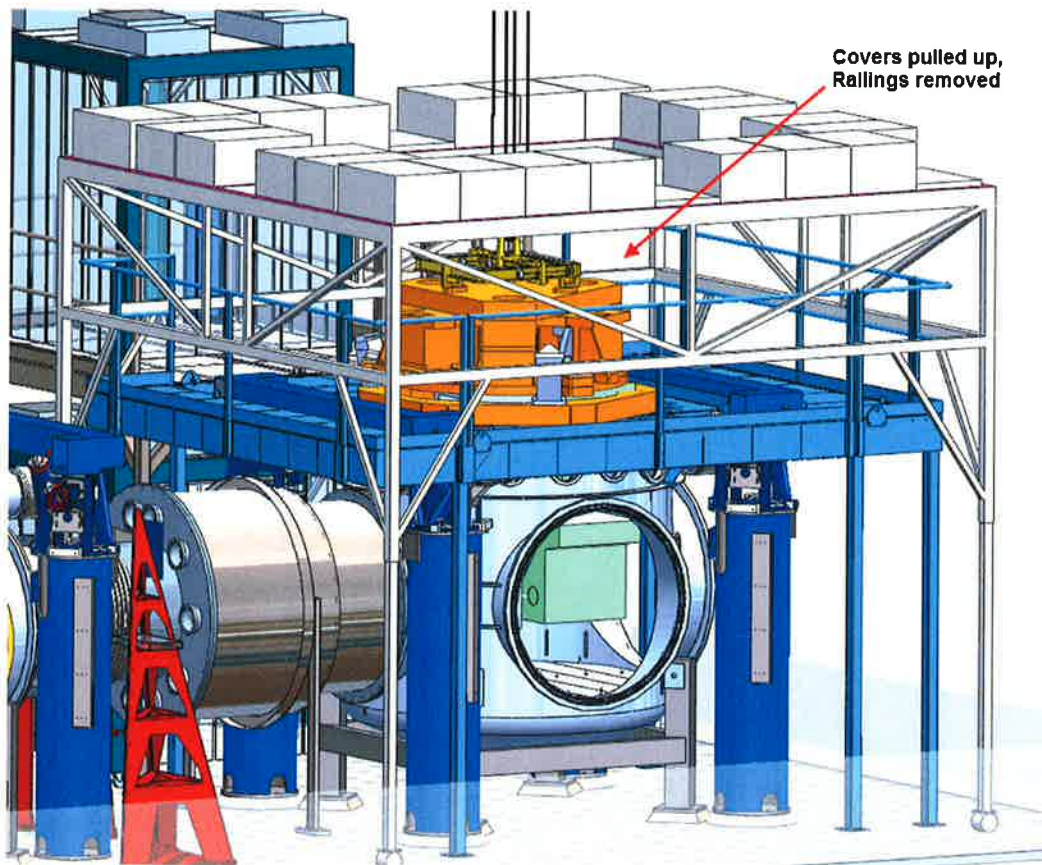

Fig 2.
5.4.1 Raise BSC clean room back to max or required height and install railings onto Work Platforms (Fig. 2).